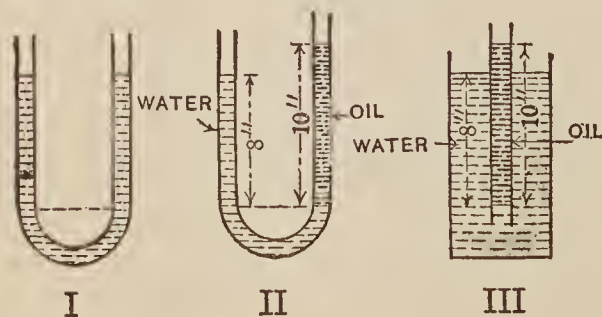

Fig. 141.—A Column of Water supports a longer column of a Light Oil.
You can illustrate this by means of experiments shown in Fig. 141. In (I) both sides of the U tube are filled with water and you know from your experiments that the water will be at the same level in both sides. In (II) one side is filled with kerosene oil which is only  $\frac{8}{10}$  as heavy as water, and you know that a column of water 8 in. high will support a column of oil 10 in. high. Similarly in (III) a depth of water of 8 inches will support a column of oil 10 inches high. If now the oil in (III) were replaced by a mixture of air and water which was only  $\frac{1}{2}$  as heavy as water, you can see that the 8 inch depth of water would support a column of the mixture 16 inches high, and so on.